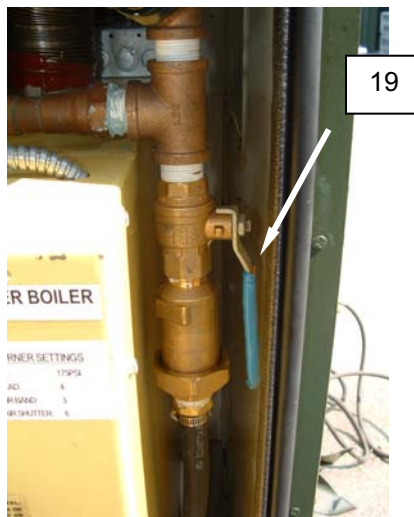

Figure 14. Boiler Water Inlet Drain Valve (V-38).
14. Open the boiler water inlet drain valve V-38 (Figure 14, Item 19).